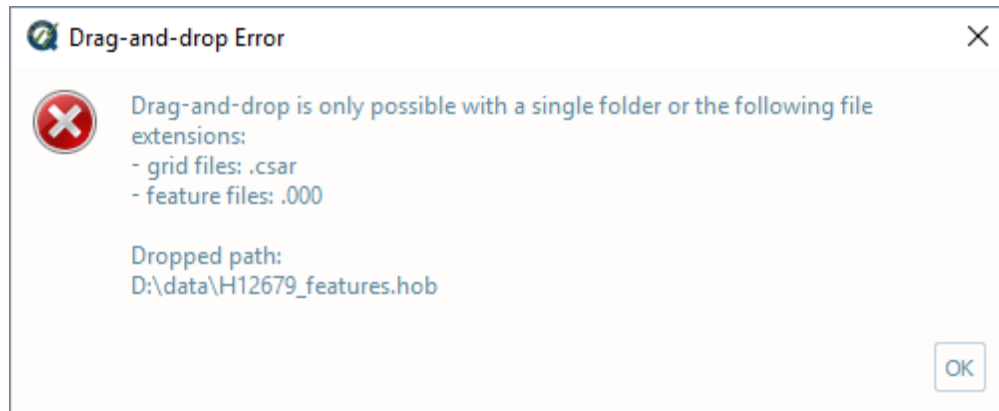

Fig. 2.3: The error message for unsupported formats.
- Note that any unaccepted file types will be rejected with a message to inform the user (Fig. 2.3).